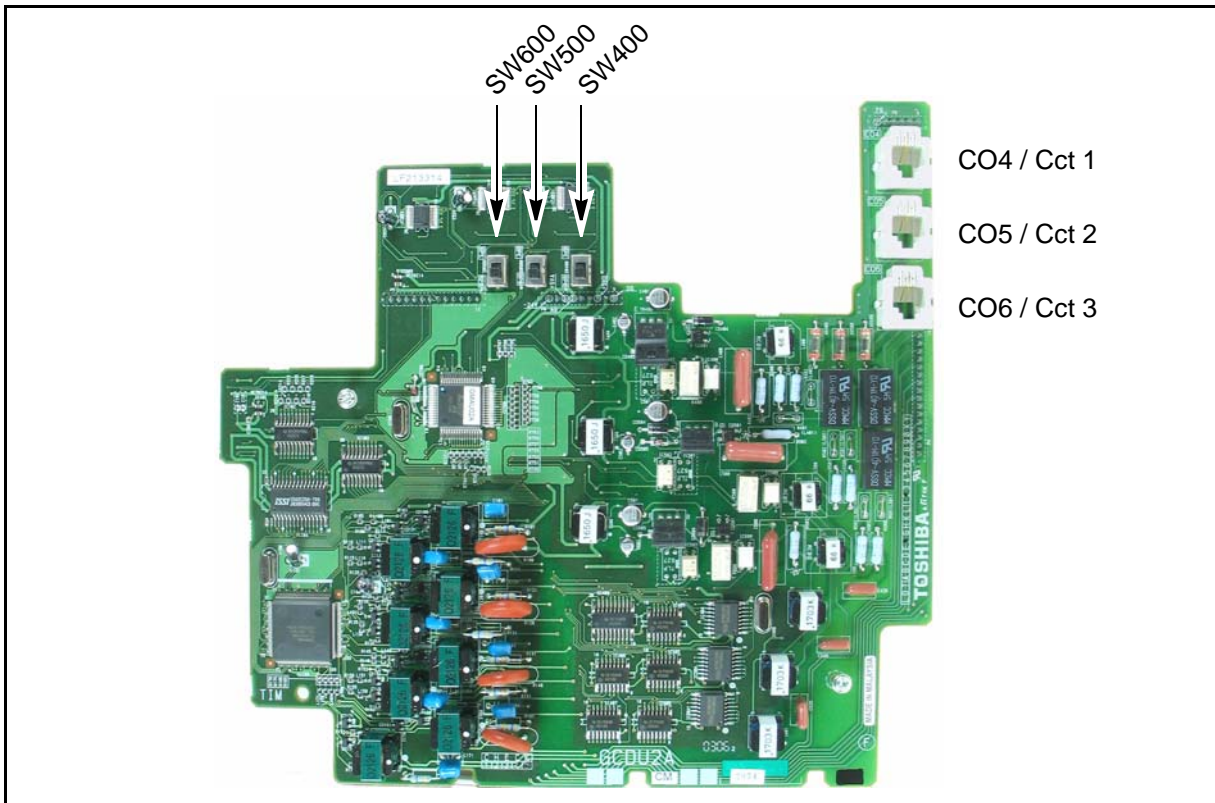

Figure 1-23 GCDU2 PCB
1. Carefully place the GCDU2 pins over the GMAU2/3/4 connectors (see Figure 1-11 and Figure 1-23). Press down on the PCB to secure the pins to the connectors (see Table 1-17).